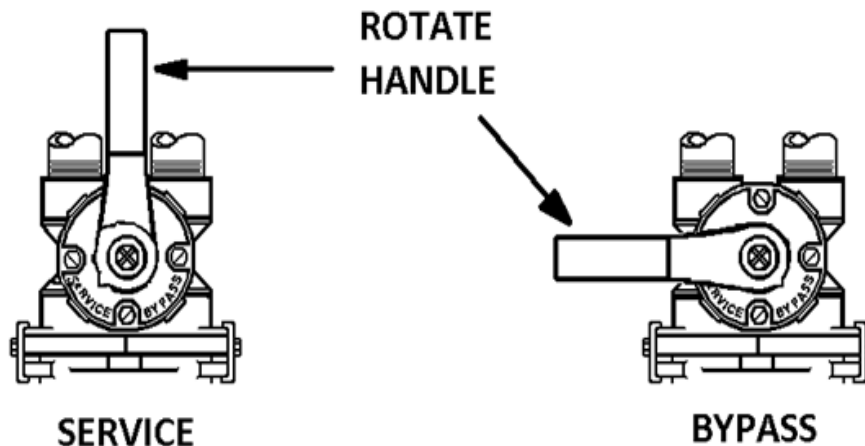

FIGURE 3: Stainless Steel Bypass Valve Operation
- STEP 11:** Place bypass in the "Bypass" position (refer to Figure 3 below). Open main supply valve or turn on power to pump on private well systems.
- STEP 12:** Plug the power cord (FB) or transformer (FEB) into an un-switched electrical outlet.
- STEP 14:** Refer to Figure 3 (above) for appropriate bypass valve operation. Rotate bypass lever of stainless steel bypass $\frac{1}{4}$ of the way to Service or until air and/or water begins to flow slowly to drain.
- STEP 15:** **IMPORTANT: Activated Carbon, Filter Ag and Birm must be soaked for at least 2 hours prior to submitting it to full backwash flow rate to prevent loss of media to drain.** Once the air is purged, fully open the bypass valve to the "Service" position (Figure 3, Page 6) and leave the control valve in backwash position for at least 10 minutes or until water flowing from the drain line runs clear; whichever is longer.
- 1) Pressure must be relieved on the system by placing the bypass valve in the "Bypass" position (Figure 3, Page 6) and initiating a manual regeneration and advancing to the "Backwash" position to relieve pressure. Once water has stopped flowing to drain move on to next step.
- 11) Attach bypass (Figure 2, Page 5 & Figure 3 Page 6) to control valve body.
- 14) Open the bypass valve only 1/4 of the way to the "Service" position (Figure 3, Page 6). Any air trapped in the media bed should begin purging to the drain and water should begin flowing slowly to the drain.
- 15) Once the air is purged, fully open the bypass valve to the "Service" position (Figure 3, Page 6) and leave the control valve in "Backwash" position for at least 10 minutes or until water flowing from the drain line runs clear; whichever is longer.